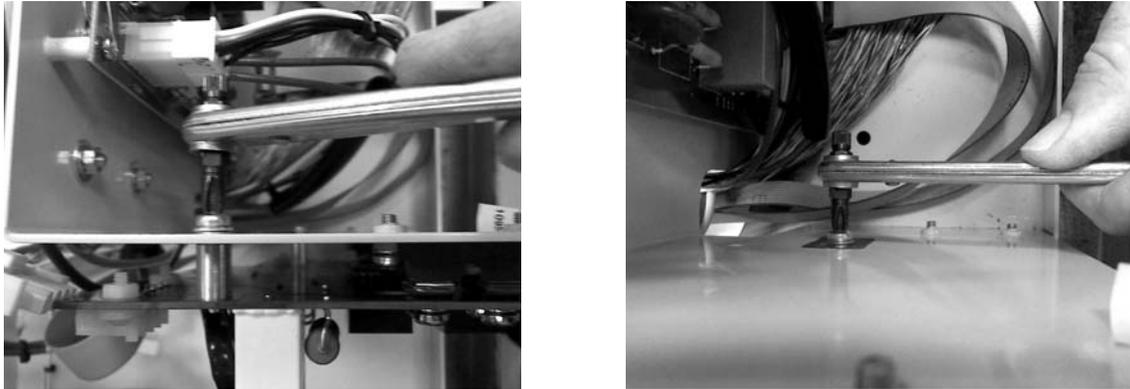

Figure 5 Remove two M4 Screws and Washers from the Back Side of the Phase Control Board
5. See Figure 5. Two M4 screws and washers from the back side of the phase control board. Remove the phase control board and set it aside for proper disposal (see the *Control Board and Cable Disposal* section for instructions on proper disposal).
1. Mount and secure the new phase control board to the cabinet wall with the six M4 screws and washers removed in Figure 5.